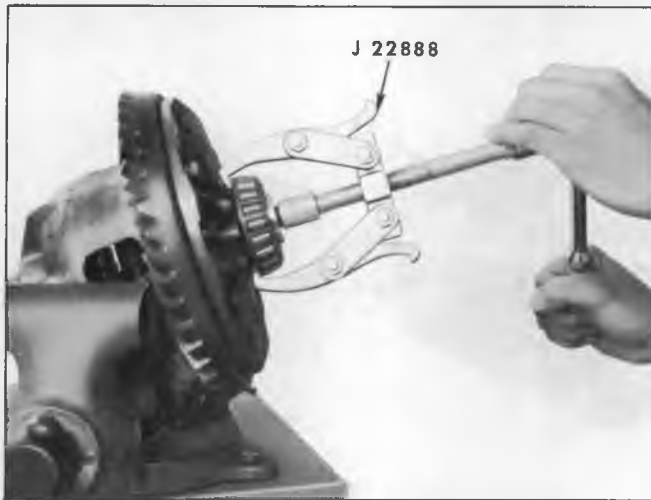

Fig. 2A-Differential Side Bearing Removal
1. If differential side bearings are to be replaced, install Tool J-22888 and Adapter Plug J-8107-4 for P Type Axles and Adapter Plug J-8107-2 for all others. See Figure 2A.